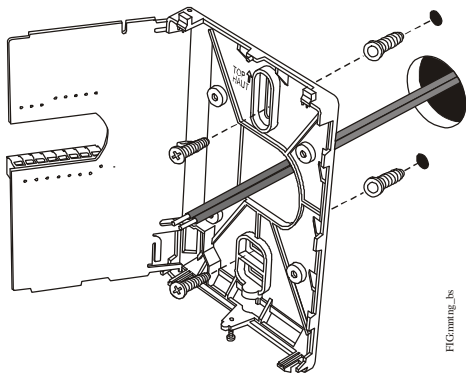

Figure 3: Securing the Thermostat Controller Mounting Base to the Wall
7. Secure the base to the wall surface using two mounting screws as illustrated in Figure 3.